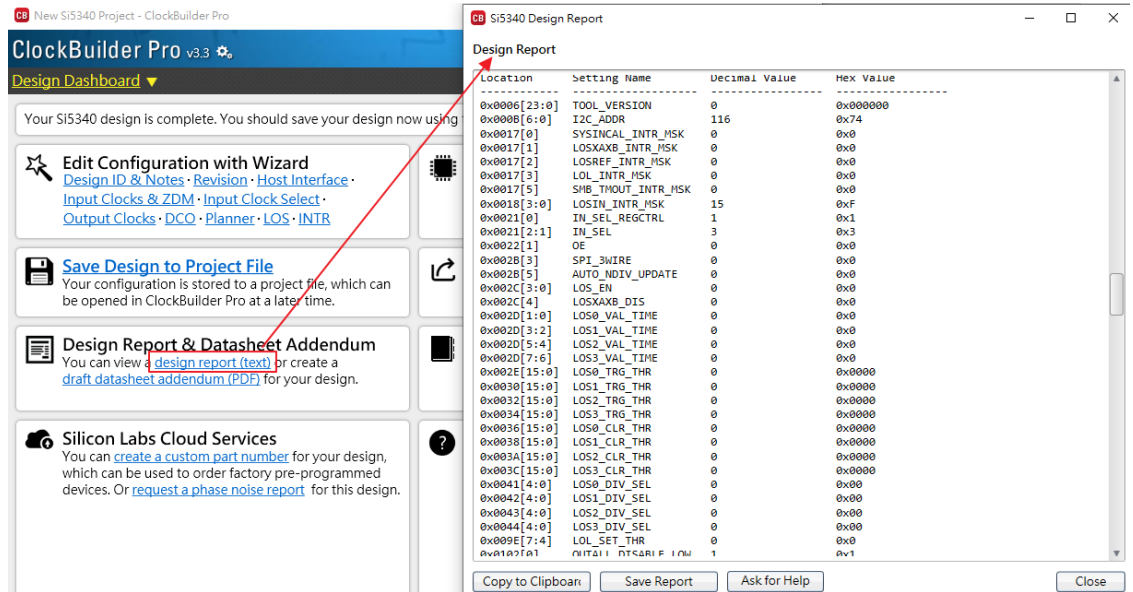

Figure 2-4 Open Design Report on ClockBuilder Pro Wizard
- After the setting is completed, ClockBuilder Pro Wizard generates a Design Report(text), which contains users setting frequency corresponding register value (See **Figure 2-4**).